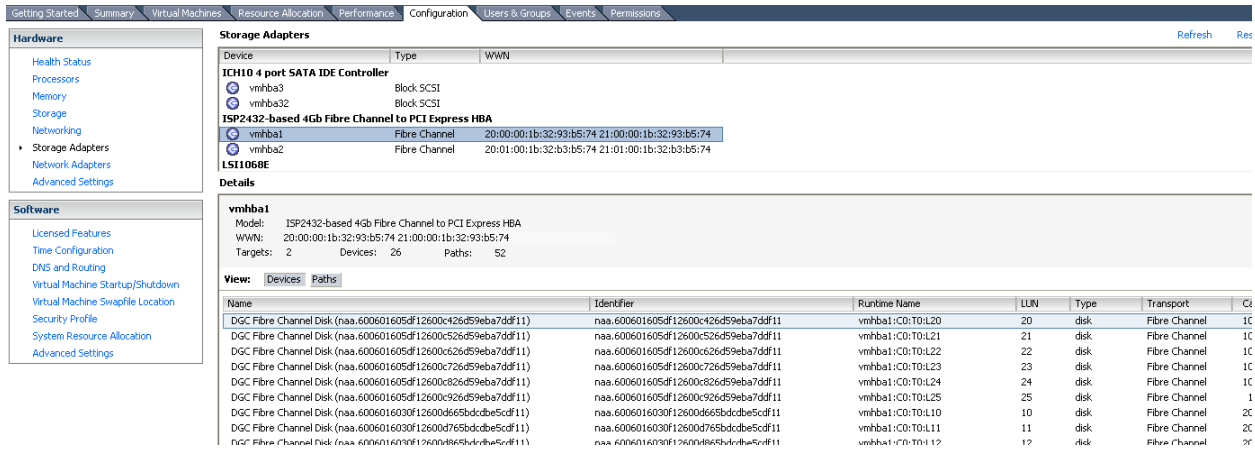

Figure 9 – ESX Management - I
2. Make sure that ESX server is able to see all the assigned LUNs, as shown in Figure 9.